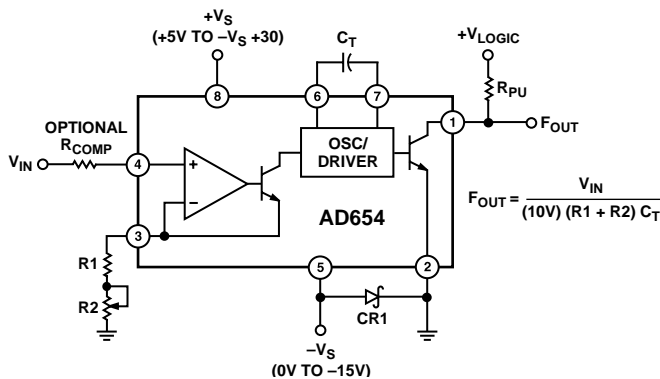
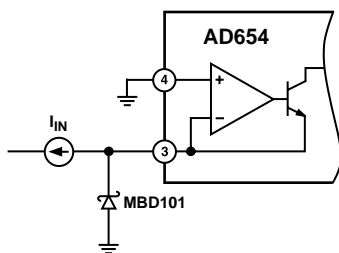

Figure 1. Standard V-F Connection for Positive Input Voltages
Figure 5. Input Protection
The AD654's block diagram appears in Figure 1. A versatile operational amplifier serves as the input stage; its purpose is to convert and scale the input voltage signal to a drive current in the NPN follower. Optimum performance is achieved when, at the full-scale input voltage, a 1 mA drive current is delivered to the current-to-frequency converter (an astable multivibrator). The drive current provides both the bias levels and the charging current to the externally connected timing capacitor. This "adaptive" bias scheme allows the oscillator to provide low nonlinearity over the entire current input range of 100 nA to 2 mA. The square wave oscillator output goes to the output driver which provides a floating base drive to the NPN power transistor. This floating drive allows the logic interface to be referenced to a level other than  $-V_S$ .
In the connection scheme of Figure 1, the input amplifier presents a very high (250 M $\Omega$ ) impedance to the input voltage, which is converted into the proper drive current by the scaling resistors at Pin 3. Resistors R1 and R2 are selected to provide a 1 mA full-scale current with enough trim range to accommodate the AD654's 10% FS error and the components' tolerances. Full-scale currents other than 1 mA can be chosen, but linearity will be reduced; 2 mA is the maximum allowable drive. The AD654's positive input voltage range spans from  $-V_S$  (ground in sink supply operation) to four volts below the positive supply. Power supply rejection degrades as the input exceeds  $(+V_S - 3.75 \text{ V})$  and at  $(+V_S - 3.5 \text{ V})$  the output frequency goes to zero.
As indicated by the scaling relationship in Figure 1, a 0.01  $\mu\text{F}$  timing capacitor will give a 10 kHz full-scale frequency, and 0.001  $\mu\text{F}$  will give 100 kHz with a 1 mA drive current. Good V/F linearity requires the use of a capacitor with low dielectric absorption (DA), while the most stable operation over temperature calls for a component having a small tempco. Polystyrene, polypropylene, or Teflon\* capacitors are preferred for tempco and dielectric absorption; other types will degrade linearity. The capacitor should be wired very close to the AD654. In Figure 1, Schottky diode CR1 (MBD101) prevents logic common from dropping more than 500 mV below  $-V_S$ . This diode is not required if  $-V_S$  is equal to logic common.
The AD654 was designed to be used with a minimum of additional hardware. However, the successful application of a precision IC involves a good understanding of possible pitfalls and the use of suitable precautions. Thus  $+V_{IN}$  and  $R_T$  pins should not be driven more than 300 mV below  $-V_S$ . Likewise, Logic Common should not drop more than 500 mV below  $-V_S$ . This would cause internal junctions to conduct, possibly damaging the IC. In addition to the diode shown in Figures 1 and 2 protecting Logic Common, a second Schottky diode (MBD101) can protect the AD654's inputs from "below  $-V_S$ " inputs as shown in Figure 5. It is also desirable not to drive  $+V_{IN}$  and  $R_T$  above  $+V_S$ . In operation, the converter will exhibit a zero output for inputs above  $(+V_S - 3.5 V)$ . Also, control currents above 2 mA will increase nonlinearity.